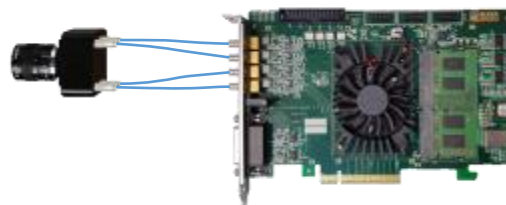

Figure 17 – Single camera topology
5. Insert the clean dust covers into the module, as shown in figure 17.